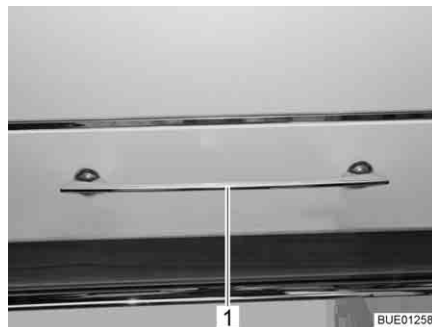

Fig. 38 Furniture flap with release handle
- Press the release handle (Fig. 38,1) down and keep it pressed.